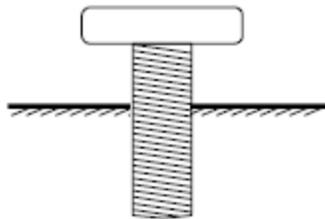
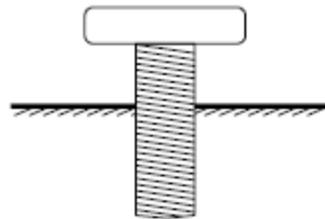

Figure 1
Figure 2
Figure 1 and **Figure 2** both show the side view of a steel bolt.
- (a) Show on **Figure 1** forces acting on the bolt which would produce a tensile strain.